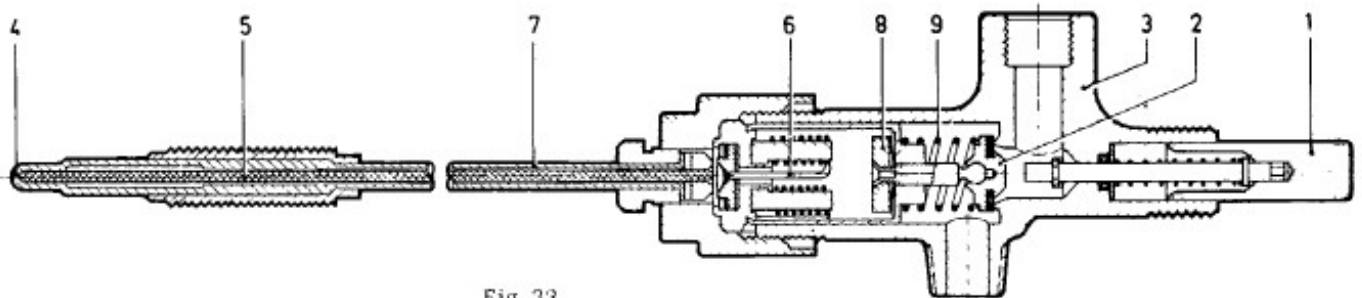

Fig. 33
31. The Junker thermoelectric safety device model STG 1 (see fig. 33)